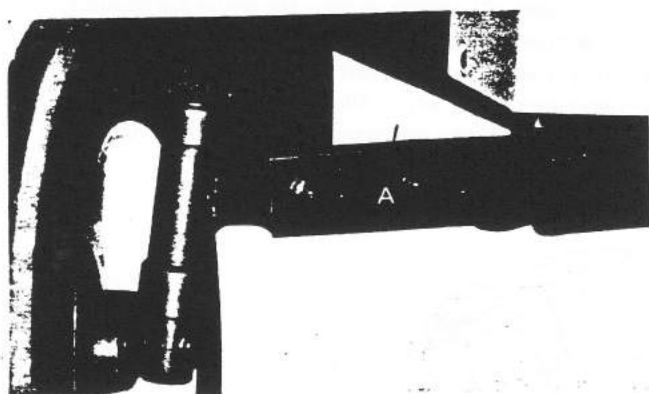

Fig. 2 Wedge
1. As shown by Diagram Fig. 2, place wedges on the upper surface of the center beam and between the chassis from both the right and left side to prevent movement of body of vehicle.